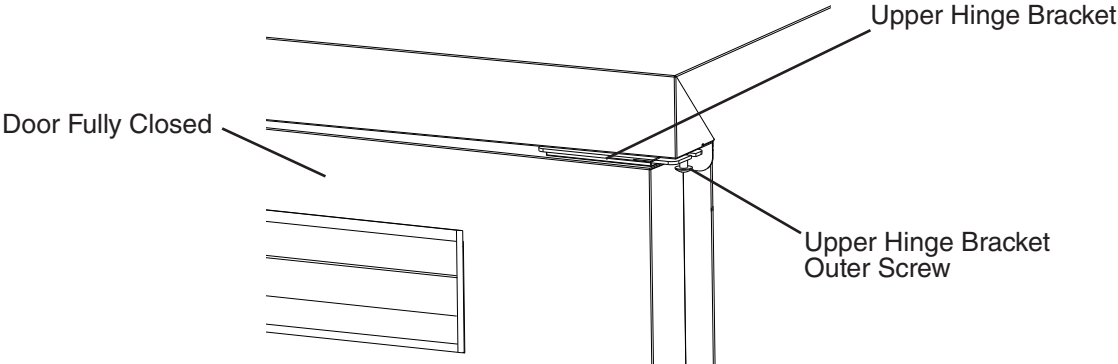

Fig. 35
18) Close the door and tighten the upper hinge bracket outer screw. See Fig. 35.